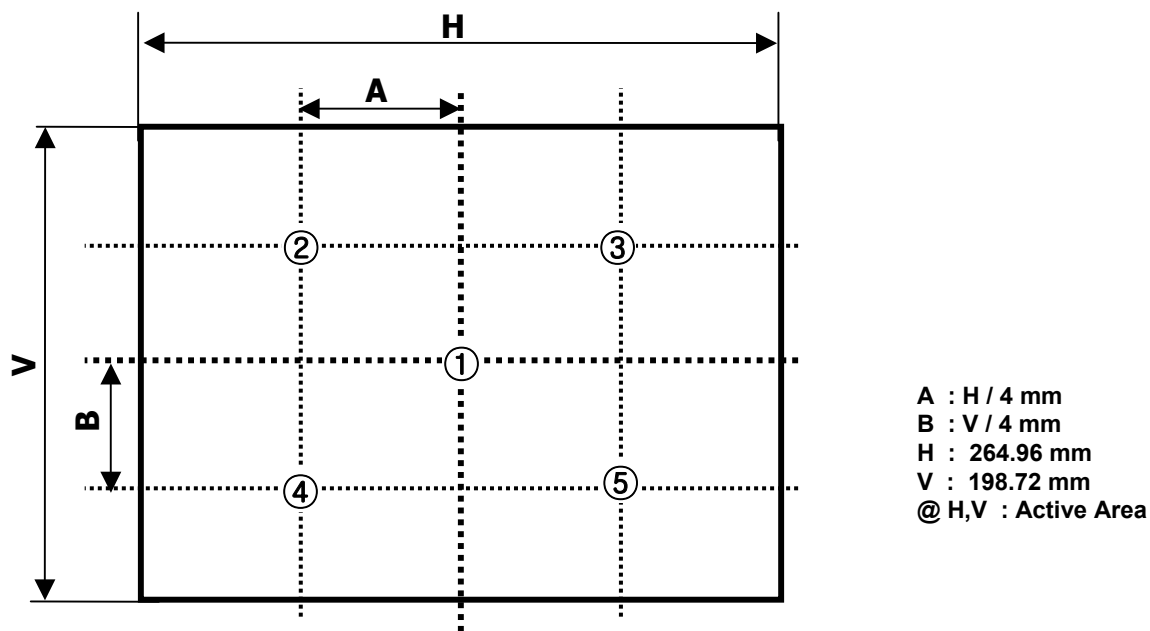

FIG. 2 Measure Point for Luminance
2. Surface luminance is luminance value at center point (1) across the LCD surface 50cm from the surface with all pixels displaying white. For more information see FIG 2.